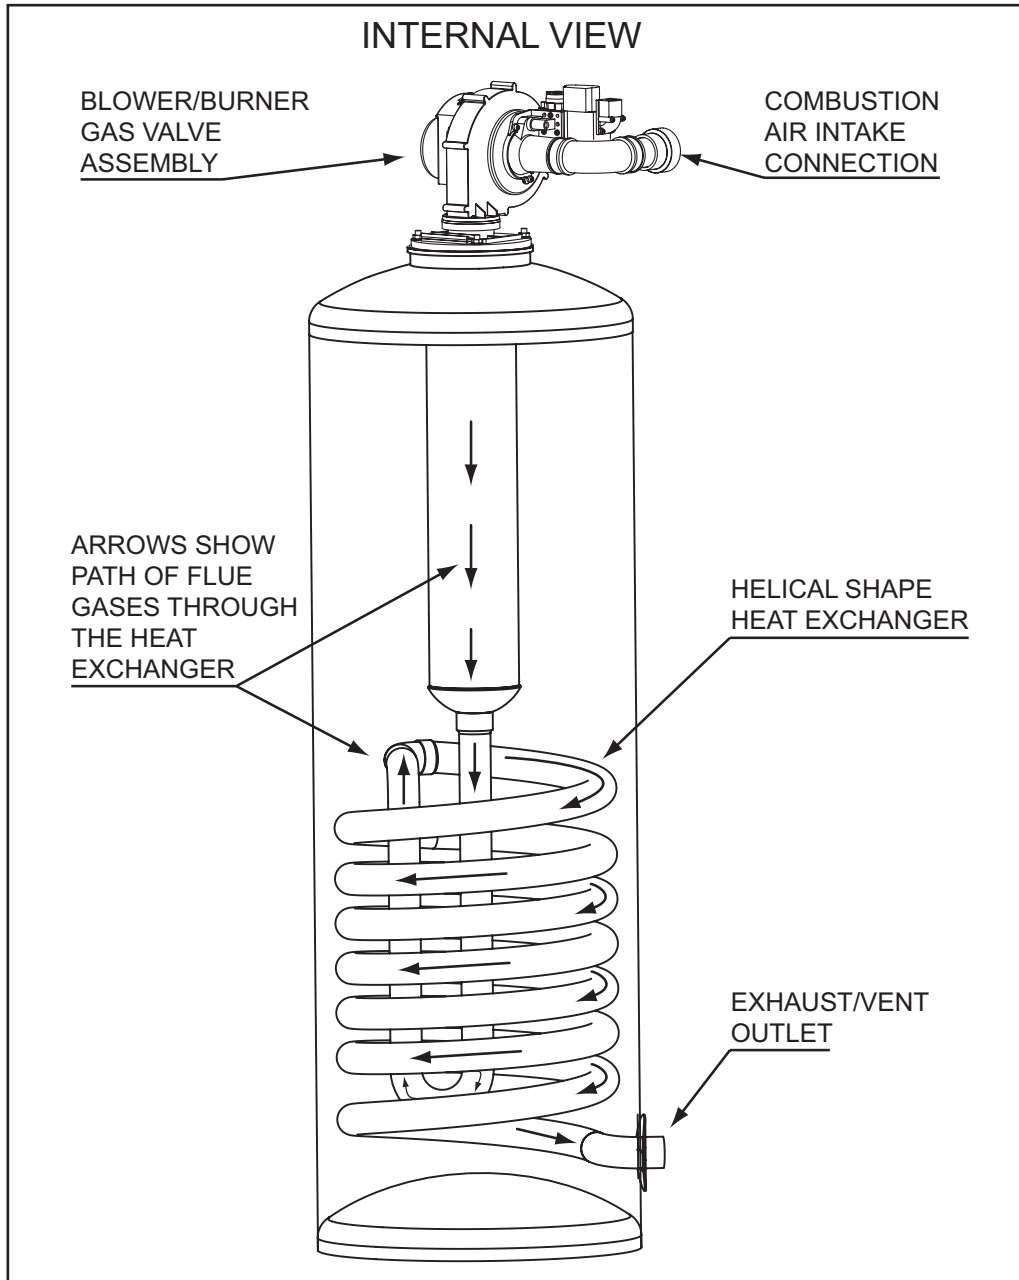

Figure 6
Starting at the top air and fuel gas are drawn in by the Combustion Blower and Venturi, see Combustion Blower on page 11 and Venturi on page 22. Flue gases are forced through the helical shaped heat exchanger by the Combustion Blower and out through the exhaust/vent outlet, see Figure 6 below.
- Do not place any screws, studs, nuts, parts or tools on top of the water heater when removing the Combustion Blower and/or Burner Assembly. Place these and any other loose objects in a safe location during these procedure. Small parts and tools can easily fall down into the heat exchanger during these procedures and may be extremely difficult or to retrieve. See Figure 6 on page 10.